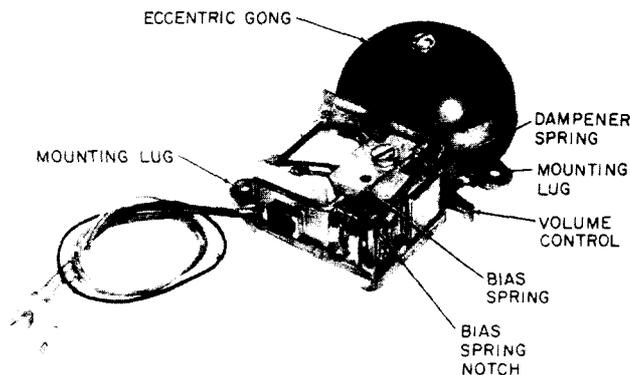

Fig. 1—M1A Ringer (manufactured after March 1, 1979)
2.01 The M-type (Fig. 1 and 2) and N-type (Fig. 3 and 4) ringers are high-impedance, single-coil, single-gong ringers. The coil on the M1A, M2B, and N1A has four spade-tipped leads
**2.06** The dampener spring shown in Fig. 1 and 2 is used in both M- and N-type ringers.